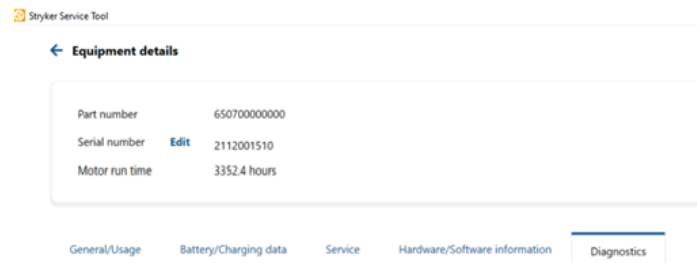

Figure 8 – Connect via USB
7. For Power-PRO 2 (6507), click **Connect via USB** (Figure 8). Then, click **Diagnostics**.